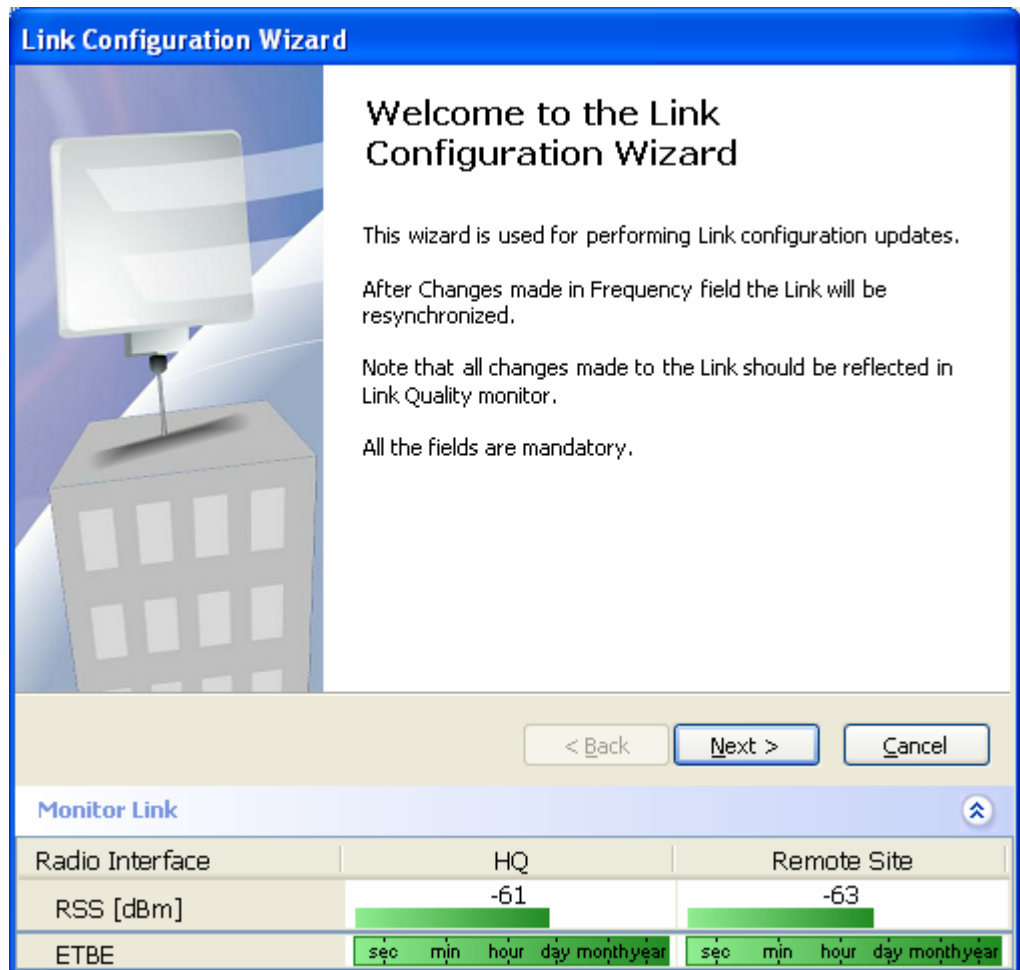

Figure 4-1. Configuration Link Wizard
2. The Configuration wizard opens (*Figure 4-1*).